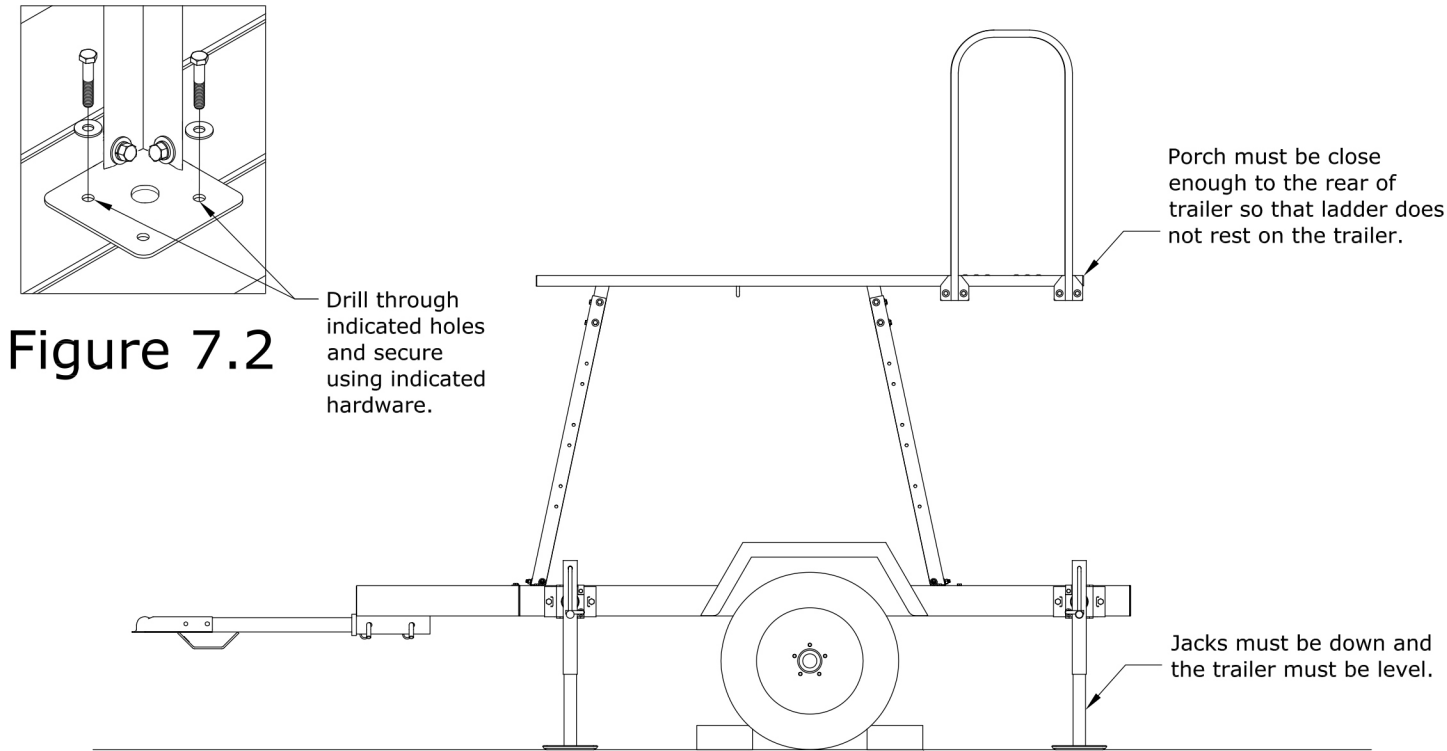

Figure 7.1
STEP 7: Position the platform on the trailer as shown in Figure 7.1. Drill eight (8) 7/16 holes in the trailer through the holes in the stand feet as shown in Figure 7.2. Secure using (8) 3/8" x 2" bolts, (16) 3/8" flat washers, (8) 3/8" lock washers, (8) 3/8" hex nuts.